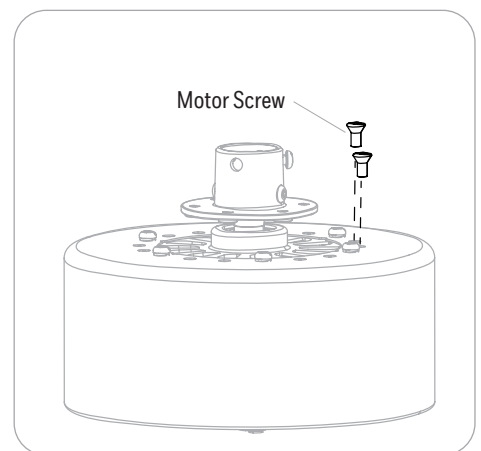

Figure 2.3
3. Remove the 12 Phillips-head motor screws from the top of the motor assembly and save for blade arm assembly (Figure 2.3).